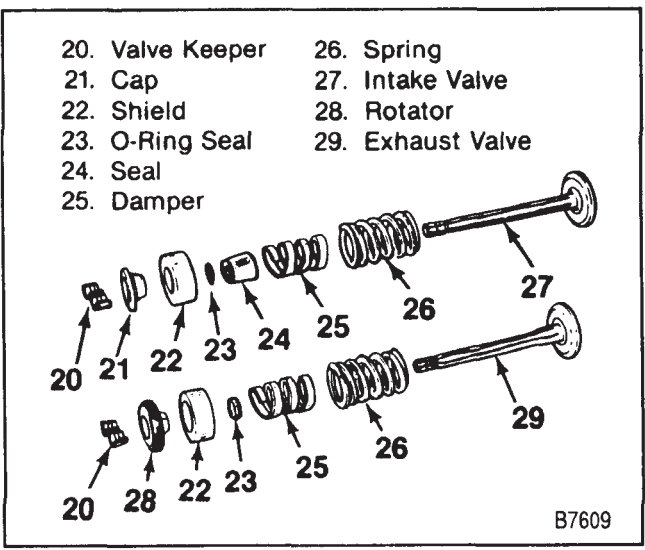

Figure 9—Valves and Components
### Remove or Disconnect (Figures 9 and 10)
**Install or Connect (Figures 9, 10 and 11)**
1. New seal (24) (intake valve only). Install the seal over the valve stem and seat it against the head.